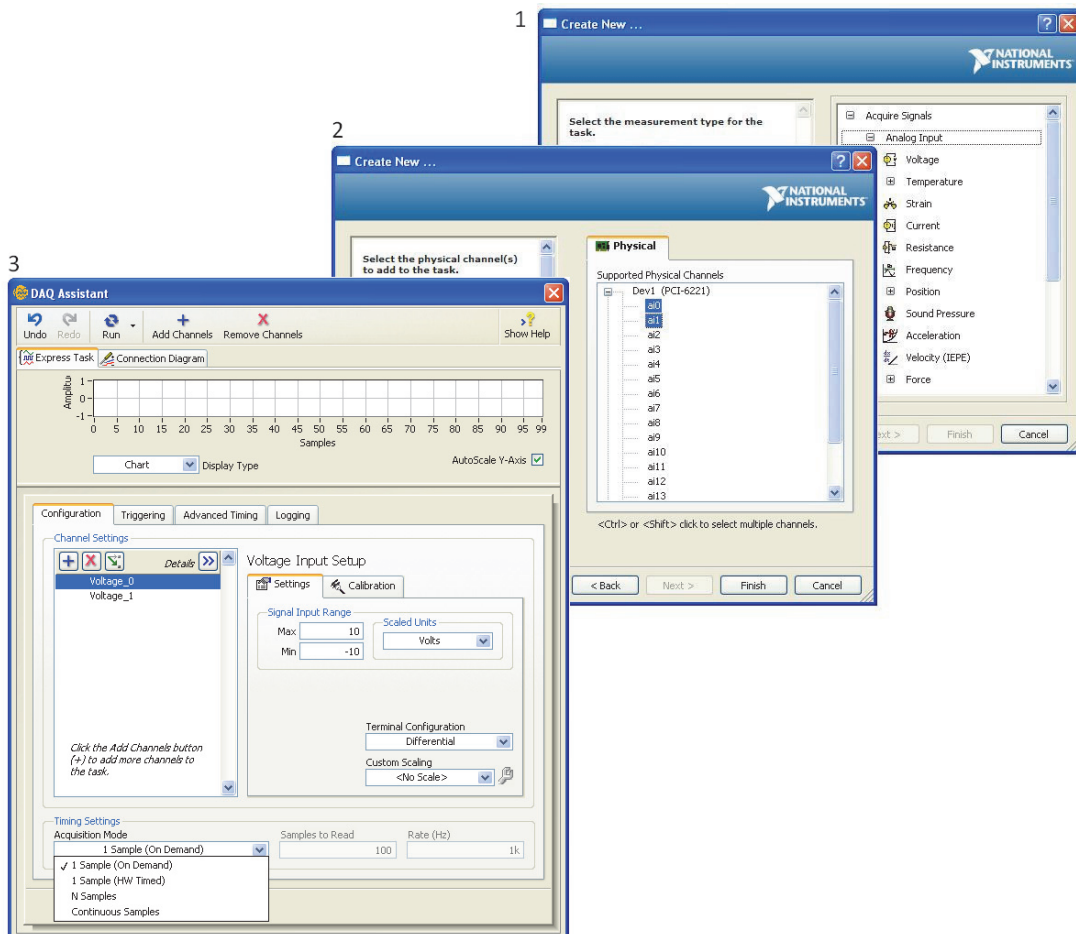

Figure 1.4.4 Using the DAQ Assistant to configure an analog input measurement task
The DAQ Assistant guides the user through a series of windows to configure the data acquisition task as shown for an analog input measurement task in Fig. 1.4.4. The DAQ Assistant automatically launches when placed in the block diagram. The “Create New...” window sets up the measurement type for the data acquisition task. You select if the data
will be acquired or generated for the measurement type (this view is not shown in Fig. 1.4.4). If you expand the list, you can see that analog, digital, and counter modes are available for both “acquire” and “generate”. By further expanding the list, you can see what types of measurements are supported for each mode. For example, the different types of analog input measurements are shown in the first view of Fig 1.4.4. Once you select the type of measurement you want, for example, a voltage analog input measurement was selected in Fig. 1.4.4, the DAQ Assistant then lists the channels that are available for that type of measurement based on the DAQ board in your computer. This is the second view in Fig. 1.4.4. After you select the channel(s) that you want, a DAQ Assistant window opens, as shown in the third view of Fig. 1.4.4, which allows you to configure the channel(s).
7. Click on “Acquire Signals”, “Analog Input”, and “Voltage” as shown in Fig. 1.4.4 to create a measurement task that can sample a continuously varying voltage signal.